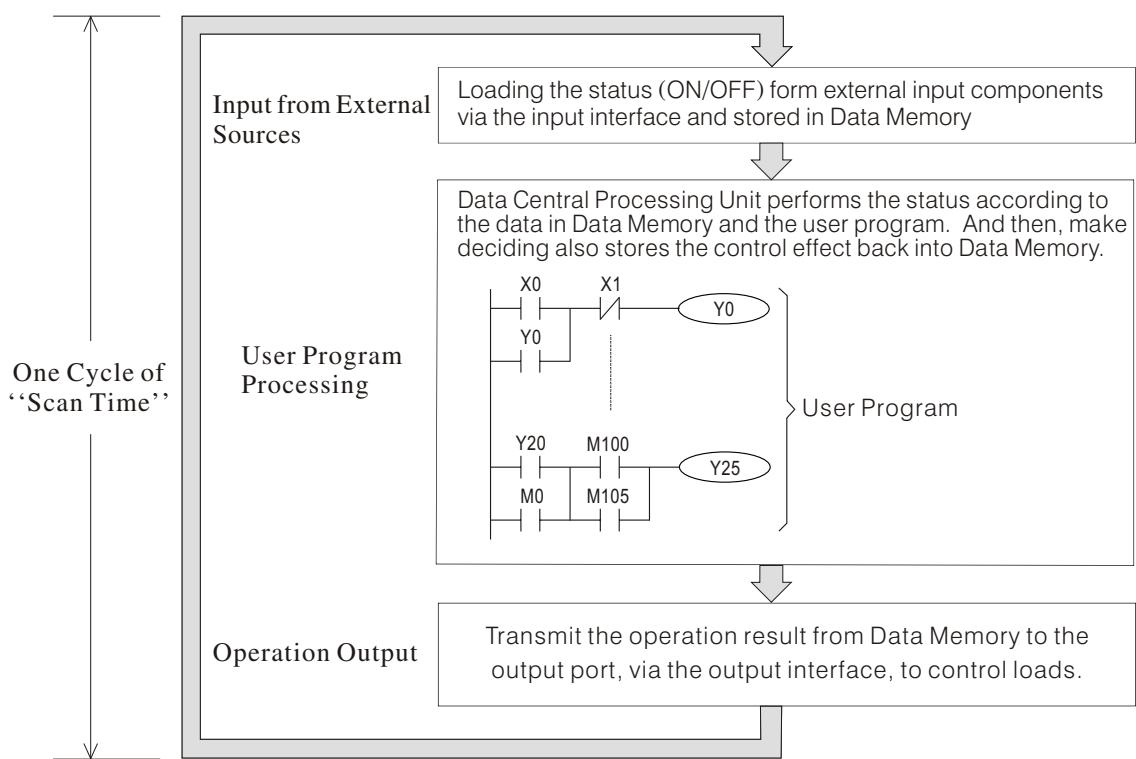

Fig. 1-2
The PLC achieves to simulate the conventional relay switchboard by using the Microcomputer technology. The Microcomputer scans all I/O status and user program to calculate the control results, and the outcome will follow the user desires. The brief process is shown as in Fig. 1-2. One cycle of "Scan Time" including spend time to handle: (① loading the input status from resources, ② to process the user program, ③ the operation result output.) An important concept about the "Scan Time" is the most significant difference between a PLC and a conventional relay switchboard, and it is a critical concept that we need to understand.